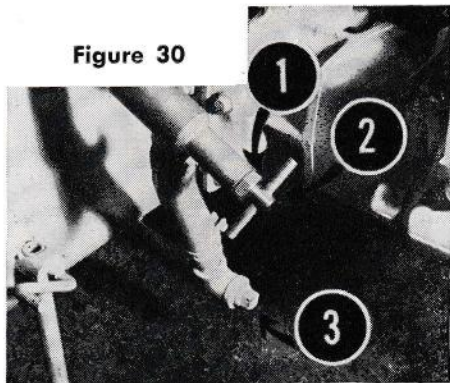

Figure 30
**OPERATING THE SPRAYER.** Loosen the locknut, #1 in figure 30, on the handle of Pressure Relief Valve. Turn the handle counter-clockwise approxi-
Drain all material from the Tank by removing the Drain Plug, 3 in Figure 30. Spray materials can be drained into a suitable container for storage.